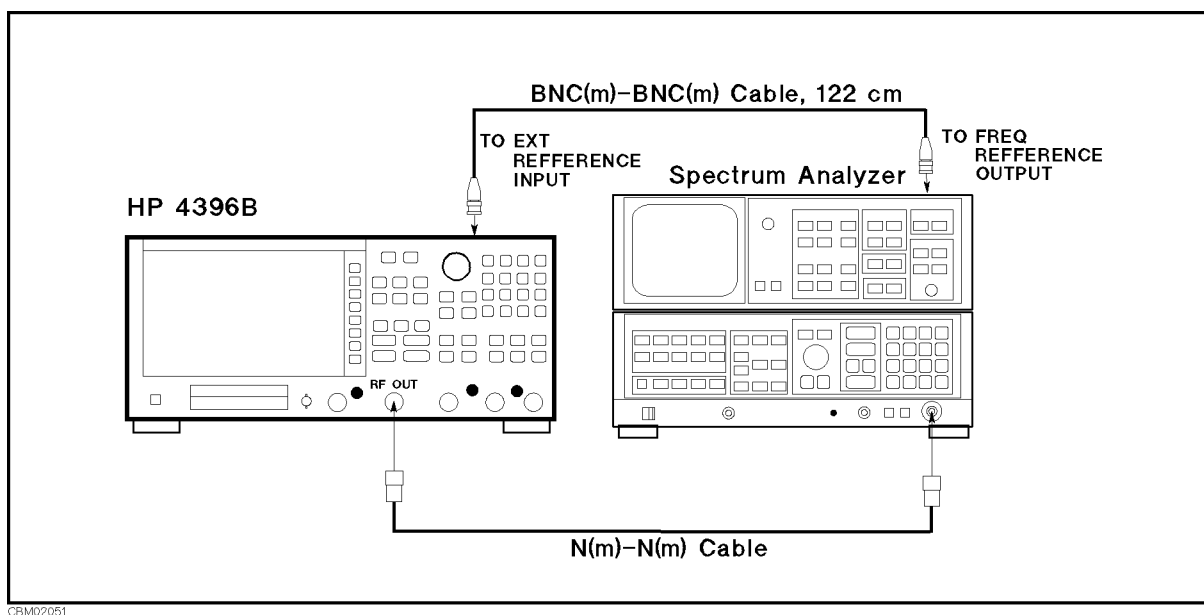

Figure 2-5. Harmonics Test Setup
1. Connect the test equipment as shown in Figure 2-5.
Connect the spectrum analyzer's 10 MHz frequency reference output to the 4396B EXT REF Input on the rear panel as shown in Figure 2-5. With this configuration, both the spectrum analyzer and the 4396B are phase locked to the same reference frequency to eliminate frequency offset errors.